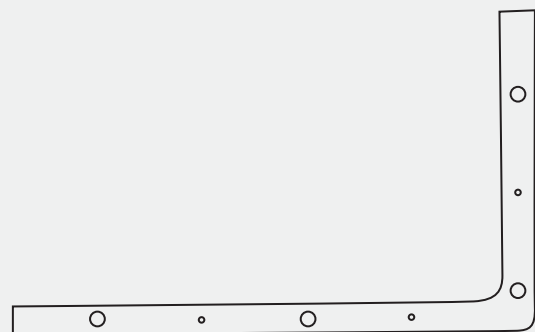

Figure 2. Bottom vat ring with countersinks facing upwards
- Place the glossy side over the bottom ring of the vat with countersinks facing upwards (Figure 2 and 3).